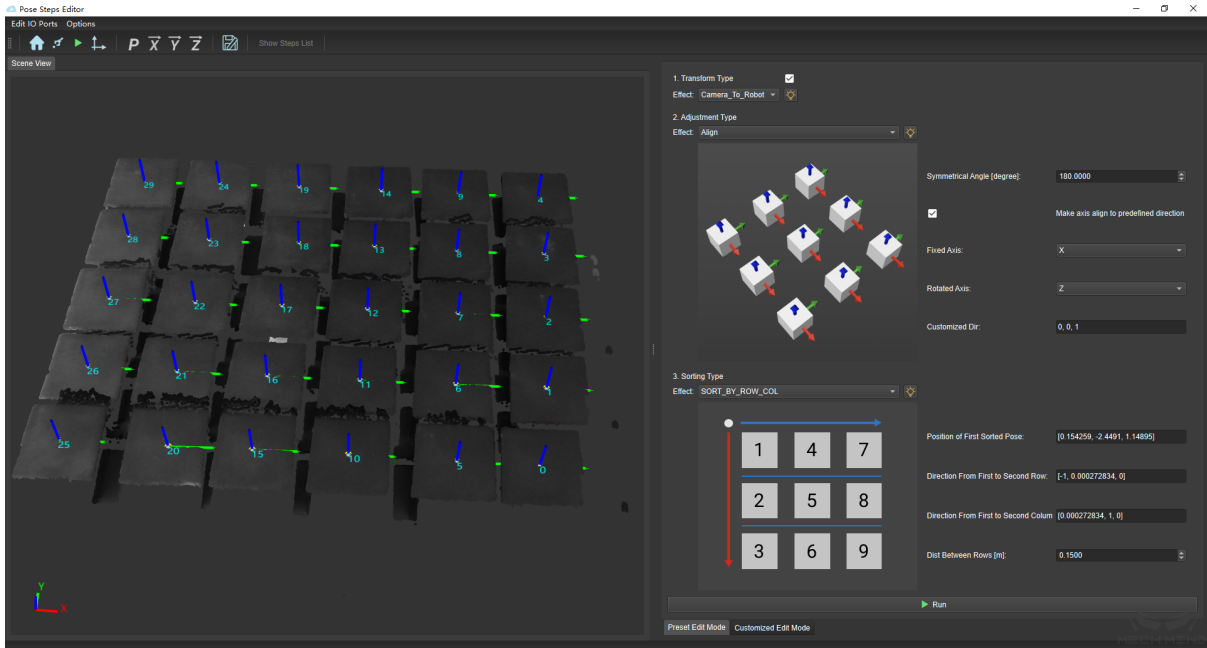

figure 8 Edit pose in Preset Edit Mode
Step 3. By using the preset editing mode, select the preset function that needs to be used: 1. Transform the pose to the robot coordinate system, 2. Align the pose direction, 3. Sort the pose by row and column, 4. Run the programme to preview the result. The result is shown in *figure 8*.